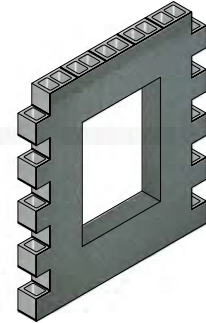

Figure 12
13. Apply a second coat of MasterSeal AWB 660/MasterSeal AWB 665/MasterSeal AWB 660 I to window flashing when MasterSeal AWB is applied to the main body of the wall. (See Figure 12). Note: MasterSeal AWB 971 FIB saturated with MasterSeal AWB forms a continuous membrane that can span the transition between CMU/ concrete and wood bucks.